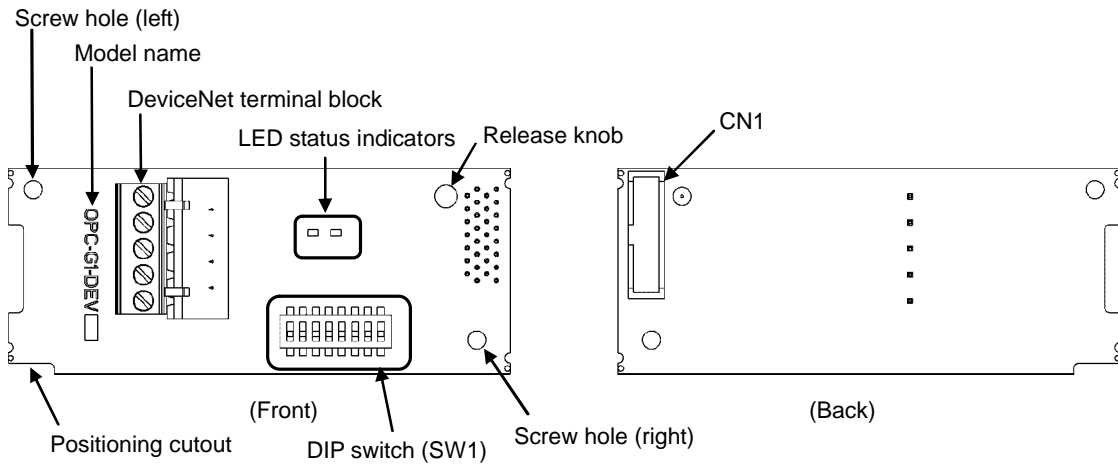
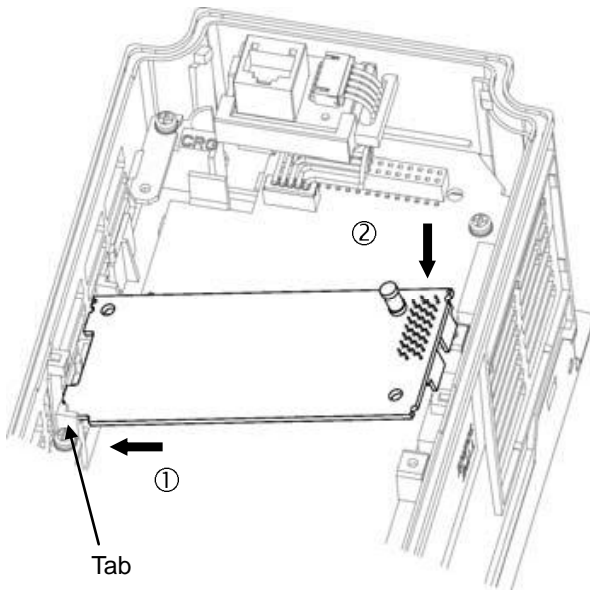
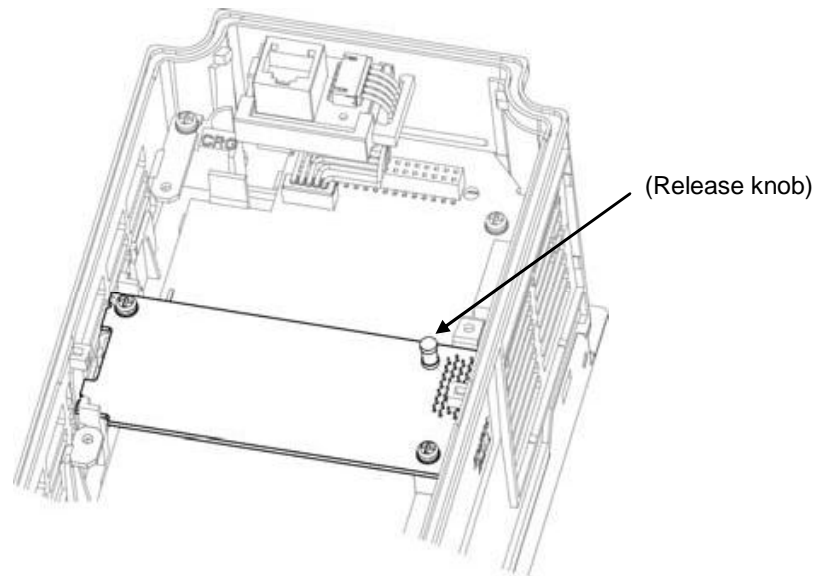

Figure 2.1 Names of Parts on DeviceNet Communications Card (OPC-G1-DEV)
Figure 3.2 Mounting the Communications Card (to B-port)
Figure 3.3 Mounting Completed (on B-port)
- (1) A communications card, two screws (M3 × 8), and the DeviceNet Communications Card Instruction Manual (this manual) are contained in the package.
- (2) The communications card is not damaged during transportation--no defective parts, dents or warps.
- (3) The model name "OPC-G1-DEV" is printed on the communications card. (See Figure 2.1.)
Figure 2.1 shows the names of the parts on the DeviceNet communications card.
- (2) Insert connector CN1 on the back of the communications card (Figure 2.1) into any of the A-port (CN4), B-port (CN5), and C-port (CN6) on the inverter's control PCB. Then tighten the two screws that come with the card. (Figure 3.3)
Note Check that the positioning cutout (shown in Figure 2.1) is fitted on the tab (① in Figure 3.2) and connector CN1 is fully inserted (② in Figure 3.2). Figure 3.3 shows the communications card correctly mounted.
- (3) Perform wiring on the communications card.